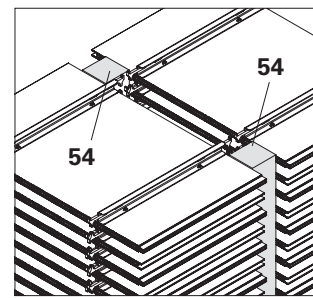

Fig. A4.02a
- For 2 or 3 stacks on a pallet, insert 2 spacers 12x12x85 cm of polystyrene foam (54) between each stack. (Fig. A4.02a)